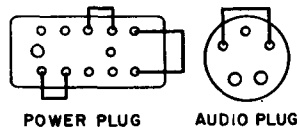

Fig. 17 — Sylvania
**Patch plugs for servicing without radio chassis (see Fig. 17).**